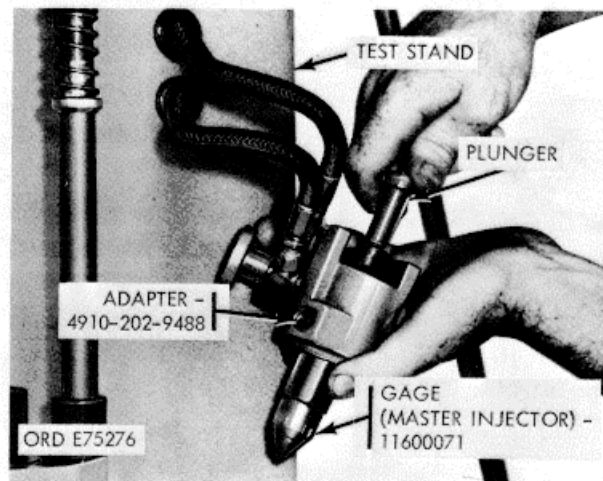

Figure 3-63. Master injector installation.
(5) Adjust air pressure by turning knurled button on air regulator until the load cell indicates within marked band on load cell gage (0 3-62). Lock knurled button in place with locknut. Note air gage pressure (gage at top hydraulic reservoir).
(6) Remove load test gage by opening ]draulic valve and returning air valve knob center position. With cylinder rod in down position, check to make sure hydraulic fluid shows hydraulic oil lever sight bulb.
(7) Open air valve. While cylinder rod is at the top of its travel, check to make sure there no air in hydraulic fluid sight glass.
(8) Make sure injector seat contains 0.0 inch restrictor orifice when calibrating test stand.
(9) Place injector adapter (fig. 3-63) o~master injector and engage locators in inject mounting holes. Make sure seat is retracted a timing marks are alined at timing wheel.
(10) Position test stand link (marked NV NH, H) over injector plunger link and place adapter and injector assembly in injector se tip back until link is below machine push rod. necessary adjust bracket so link is alined but r rubbing.
(2) Install cap and rotate into its notched (fig. 3-63).